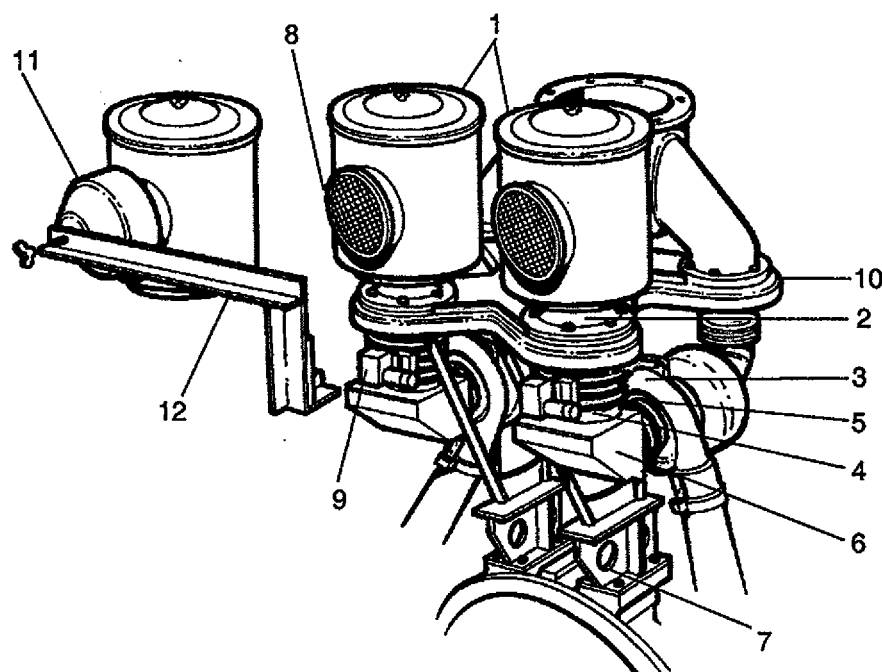

Fig. 1A
The air shut off valves (9) are fitted between the air cleaners and the turbocharger intakes (see Fig. 1A).